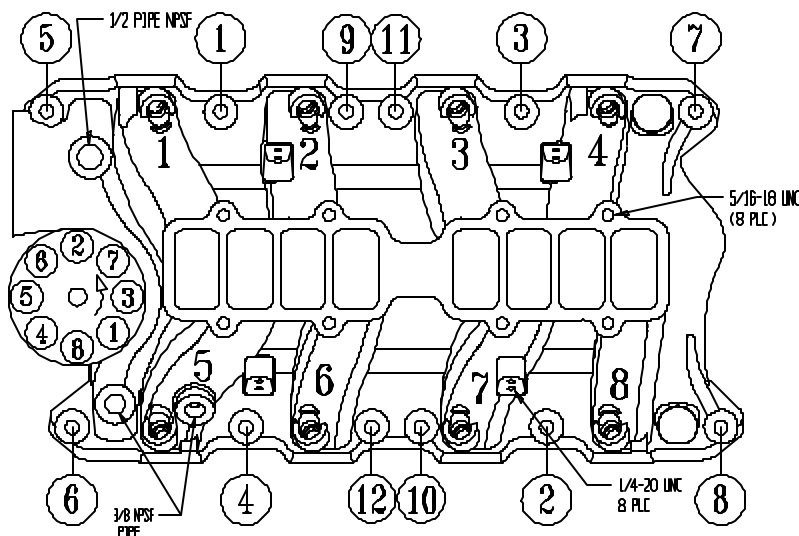

FIGURE 1 - BOLT TIGHTENING SEQUENCE AND FIRING ORDER
- 5) The Edelbrock throttle bracket substitutes for the stock EGR plate and throttle bracket. Place it underneath the two right rear manifold bolts (# 3 & #7 in Figure 1). Some valve covers require the throttle bracket to be trimmed or spaced up to fit.
- 6) **Manifold Torque:** See Figure 1. On early model iron heads, there is no support underneath manifold boltholes circled 5, 6, 7, and 8. These bolts need to be hand-tightened with a short box end wrench being very careful not to damage the manifold. Torque all other bolts in the sequence to 15-18 ft-lbs.